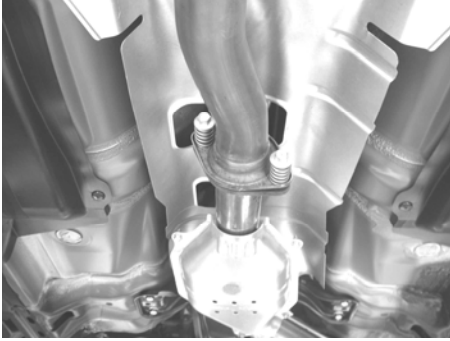

Figure 3
4. Unbolt the flange shown in figure 3 located just behind the catalytic converter.